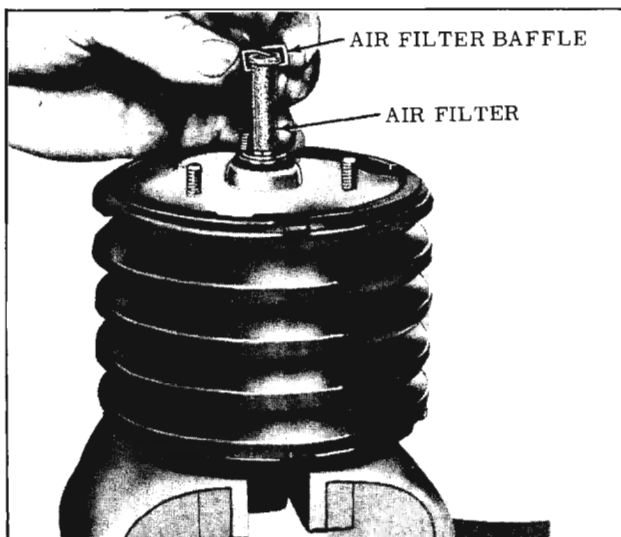

Fig. 7-122 Air Filter and Baffle Removal
4. Clamp power unit in a vise as shown in Fig. 7-122.
5. Remove air filter baffle from sleeve of retainer and sleeve assembly by pushing down and sideways to unhook, then lift out air filter with baffle. Remove baffle from air filter. (Fig. 7-122)
- Assemble air filter baffle to air filter, then install this assembly into guide sleeve. See Fig. 7-122. Air filter baffle clips over end of guide sleeve and into the same groove with and above the retaining ring.